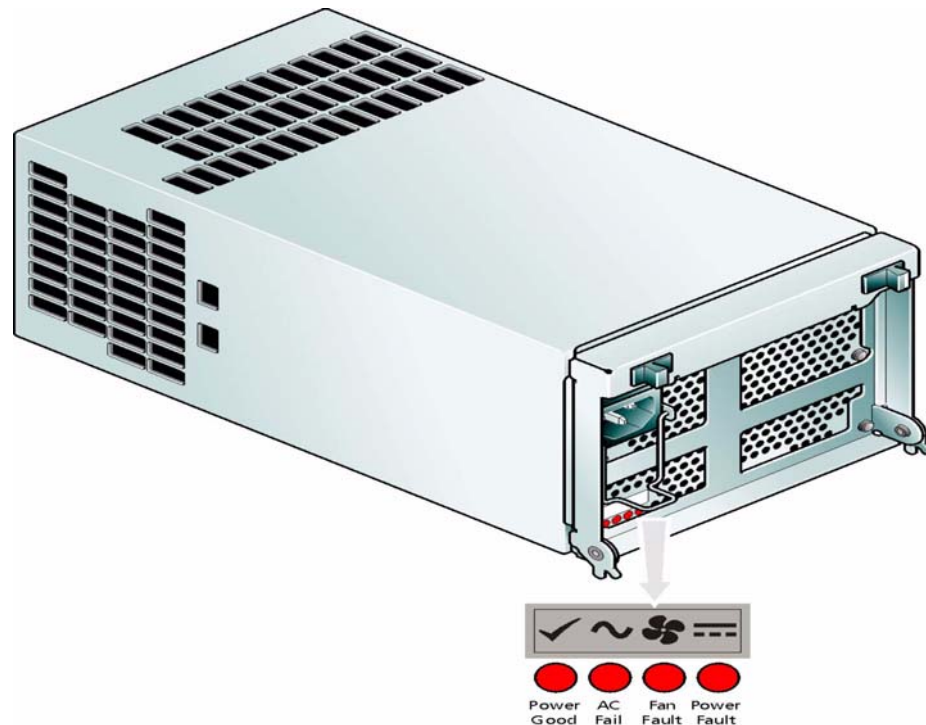

Figure 1-4 AC Power Supply/Cooling Module
- Two AC, 450W Power Supply/Cooling plug-in modules (see Figure 1-4)
Two auto ranging AC 450W Power Supply/Cooling modules (Figure 1-4) are supplied mounted in the rear of the enclosure as part of the subsystem core product.